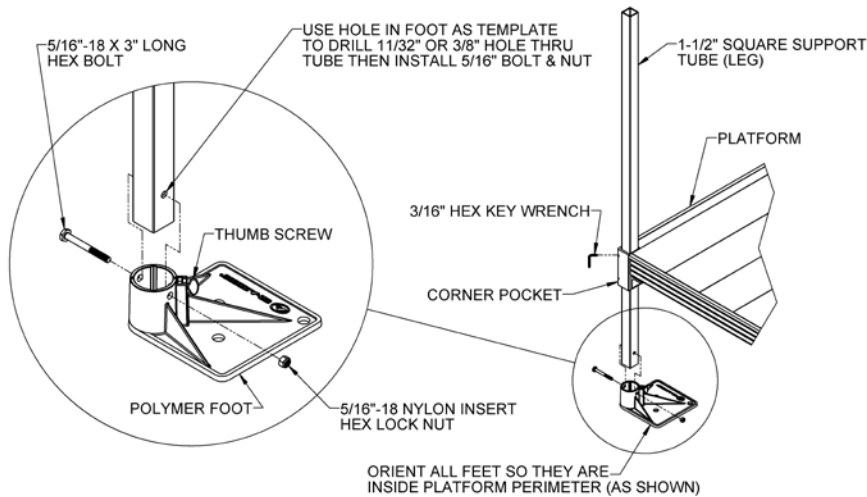

FIG. 4
- 1.2 Insert a support tube (leg) through a corner pocket at corner of the platform and into the foot (FIG. 4). Orient all feet so they do not protrude past the perimeter of the platform.